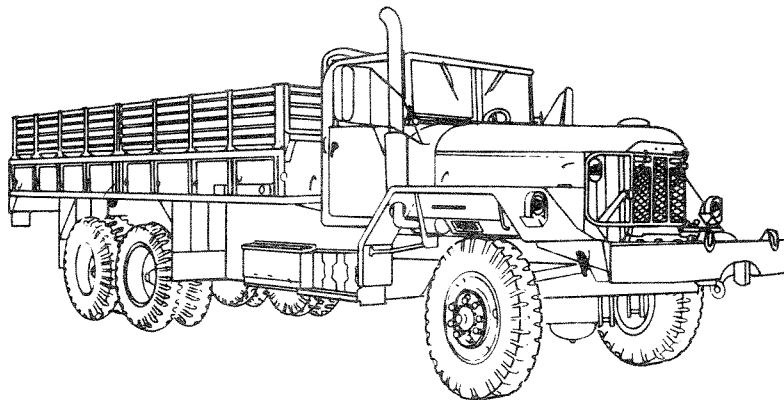

Figure 2-18. M35A2 Cargo Truck
b. *M35A2 Cargo Truck.* The M35A2 is a 2-1/2-ton, 6x6, diesel-powered cargo truck used as a general supply vehicle for the firing platoon. For more information on the M35A2 truck, see TM 9-2320-209-10-1. Figure 2-18 shows the M35A2 cargo truck.